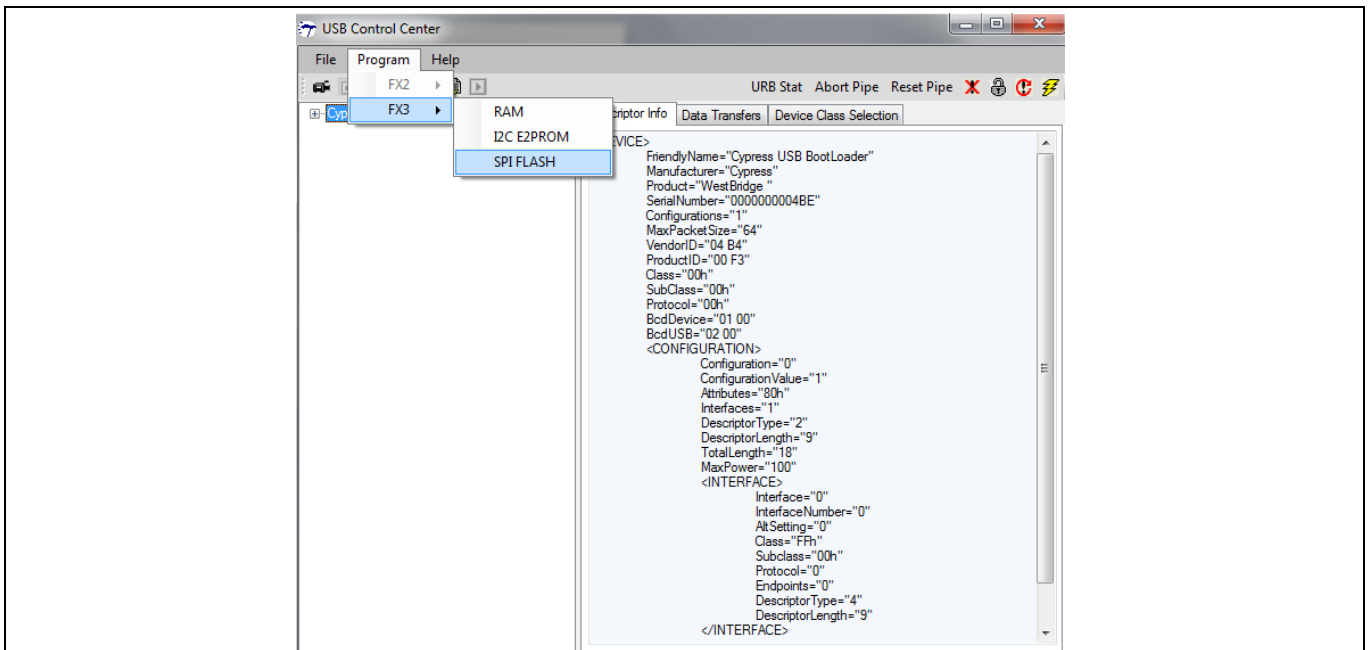
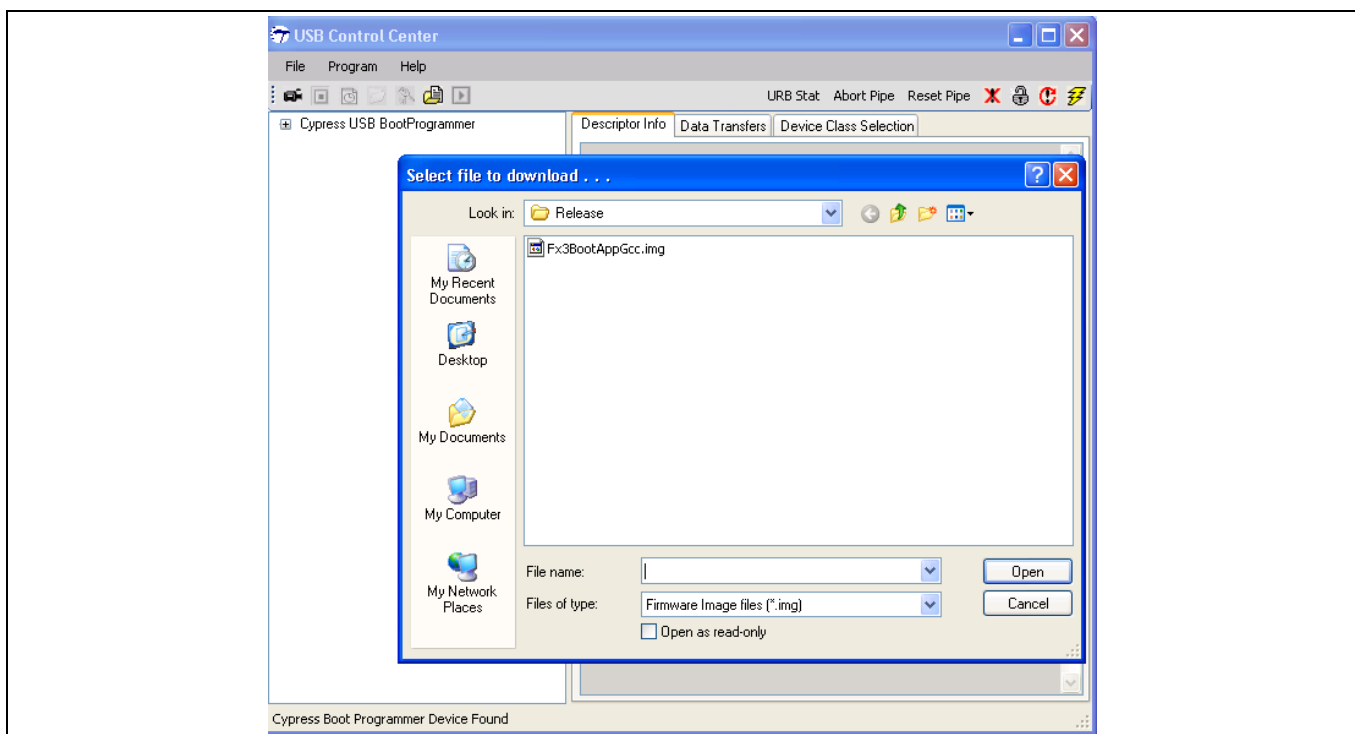

Figure 31 Choose Program > FX3 > SPI FLASH in Control Center
Figure 32 Double-click on the .img file to be programmed into SPI flash
- In the Control Center, select the FX3 device and then choose **Program > FX3 > SPI FLASH**, as shown in **Figure 31**. Browse to the *.img* file to be programmed into the SPI flash, as shown in **Figure 32**.